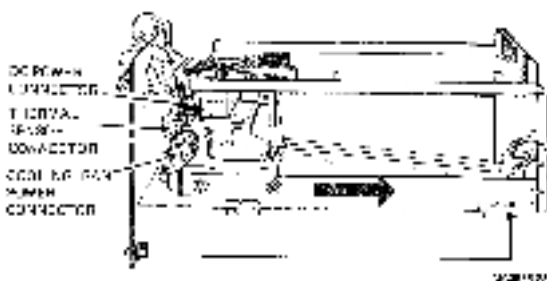

Figure 4-18 Disconnecting the Tabletop Component Assembly
6. Unplug dc power harness connector (Figure 4-18).